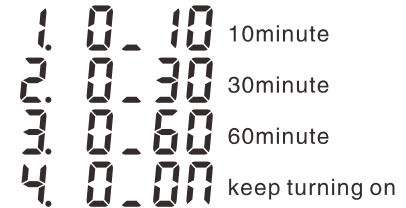

Figure 2–3–2 DC24V time setup
- (1) Please select **7.024V**(output 24V) in the main menu.
- (2) As figure 2–3–2 Screen, screen shows the time options of DC24V output.
- (3) When the selected time is up, the DC24V output is closed automatically.